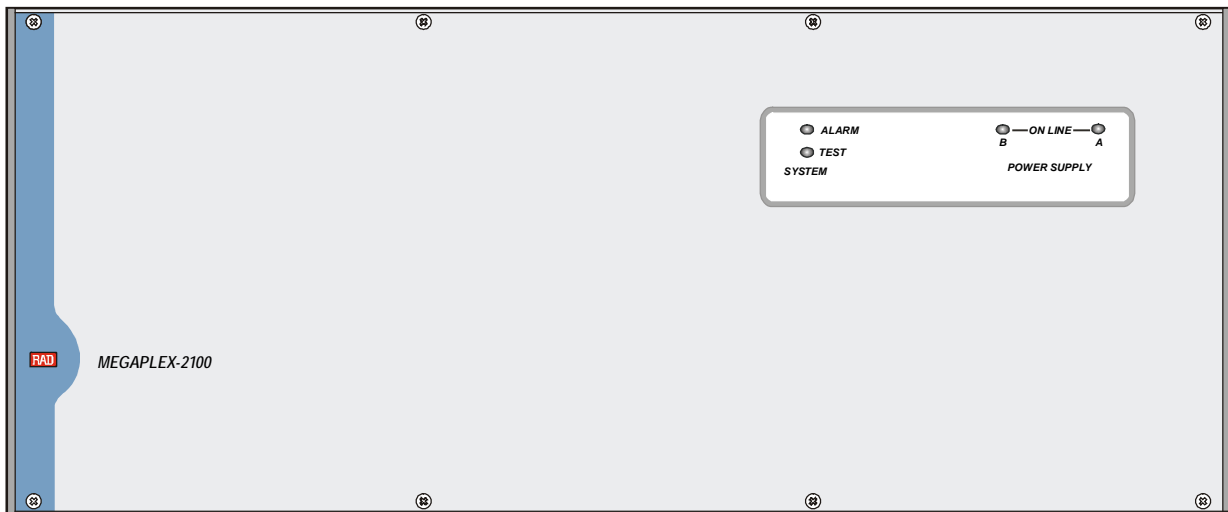
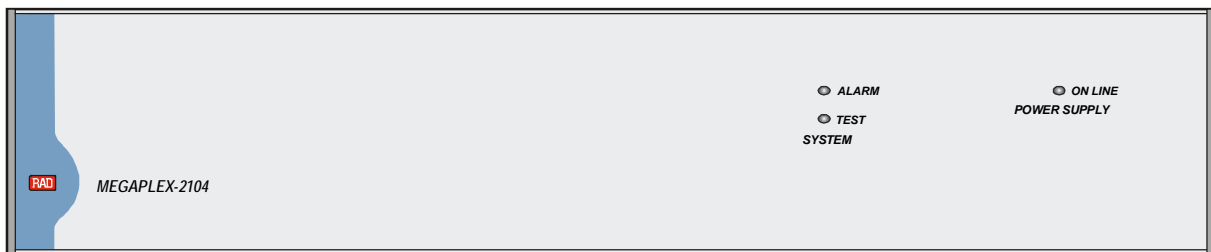

Figure 3-1. MP-2100 Enclosure, Front Panel
Figure 3-2. MP-2104, Front View
*Figure 3-1 and Figure 3-2* identify the front panel indicators for MP-2100 and MP-2104, respectively. *Table 3-1* describes the indicator functions.